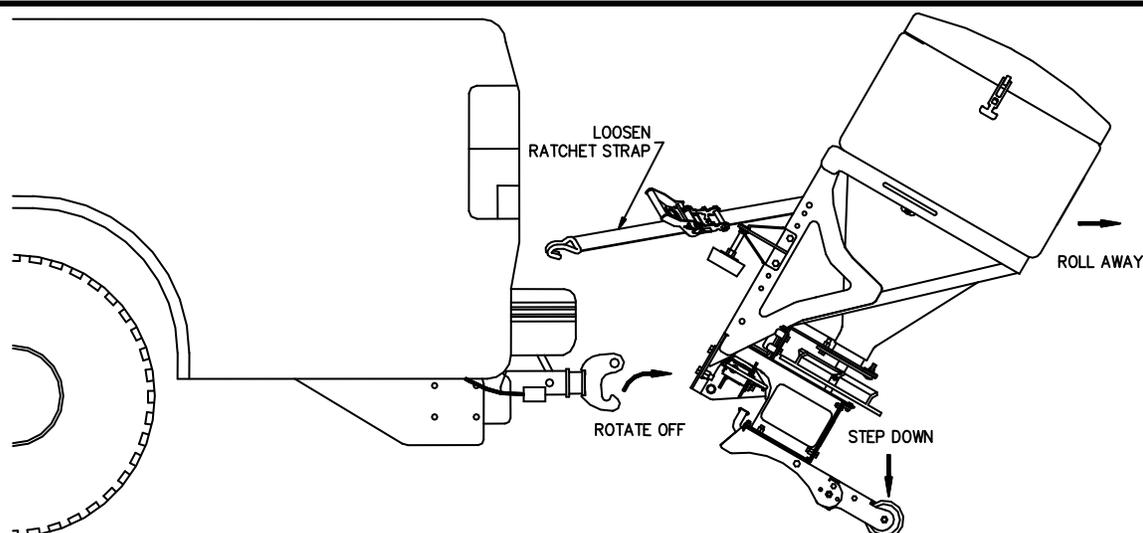

Figure 12. RT3 Attachment Removal Procedure
8. Grip spreader firmly, step on Leg Assembly and rotate spreader off Lower Pin, refer to Figure 12.